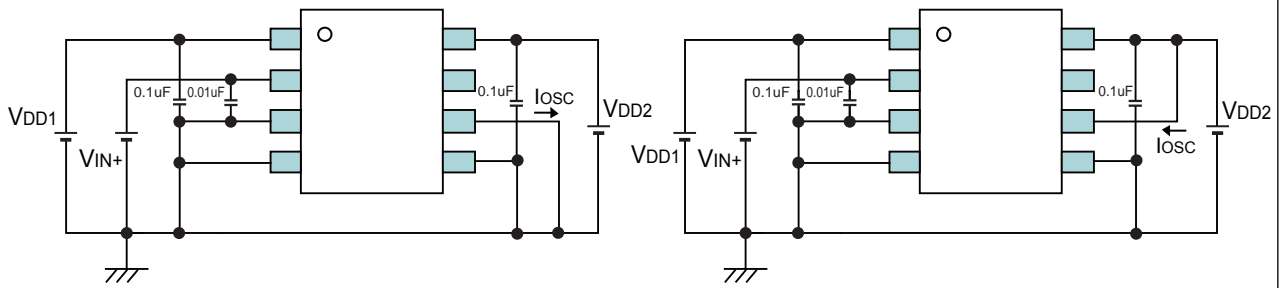

Fig.6 CMR Test Circuit
***2** Common Mode Transient Immunity (CMR) is specified by the rate of rise / fall of a pulse applied between GND1 on the input side and GND2 on the output side (pins 4 and 5) by using the circuit shown in **Fig. 6 CMR Test Circuit**. CMR is defined at the point that clock signals are corrupted.